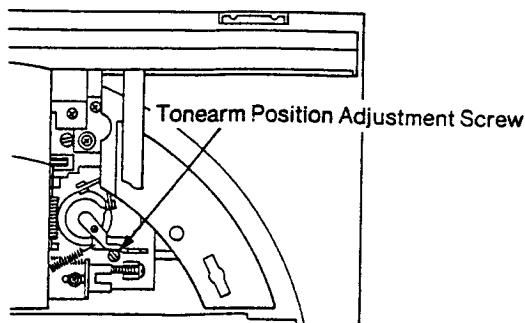

Fig. 3
3. Press ◀ button on the control panel to shift the arm to the place where the tonearm position adjustment cam can be observed. (Fig. 3)
4. Adjust the cam, so that the tonearm becomes perpendicular to the rear wall of the cabinet. (Fig. 3)